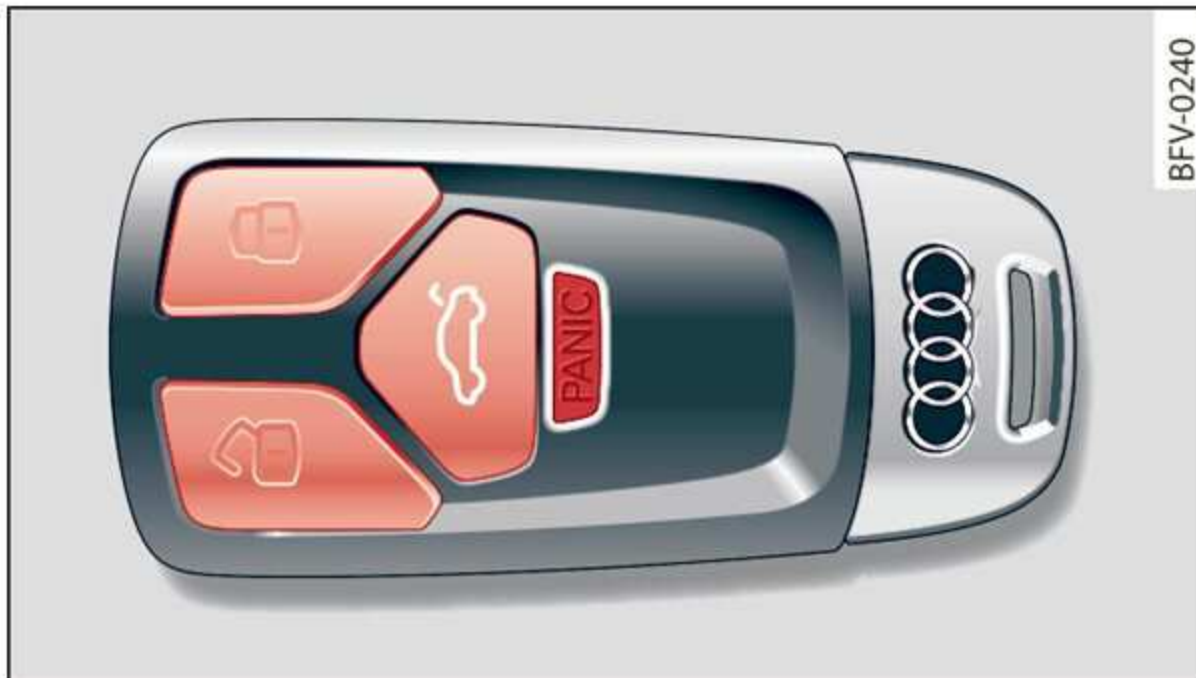

Fig. 15 Remote control key: button programming
- ▶ To unlock the vehicle, press the  button ⇒ *fig. 15*.